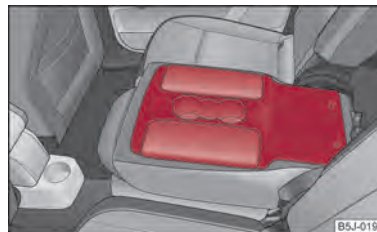

Fig. 43 Rear seats: Armrest
- The middle seat backrest can be folded ⇒ page 53, Folding rear seats forwards and used as armrest or table with cup holder ⇒ fig. 43.